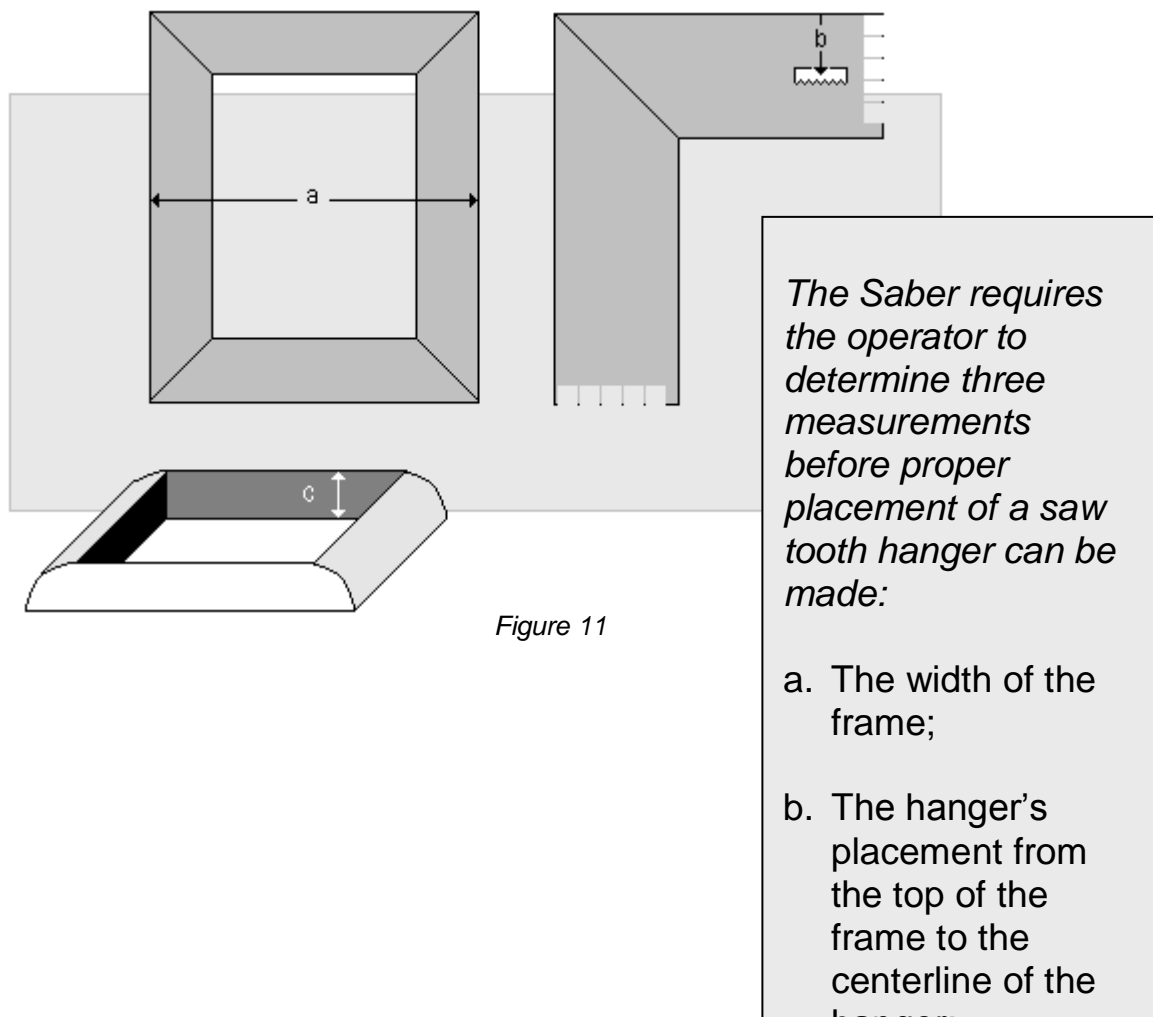

Figure 11
- i. Measure the width from outside the left edge to outside the right edge of the frame. (measurement “a” in Figure 11)
- i. Measure or approximate the distance between the top edge of the frame and the point at which you wish to insert the hanger. (measurement “b” in Figure 11)
- i. With the frame laying flat on a surface, determine its height at its thickest cross-section. (measurement “c” in Figure 11)